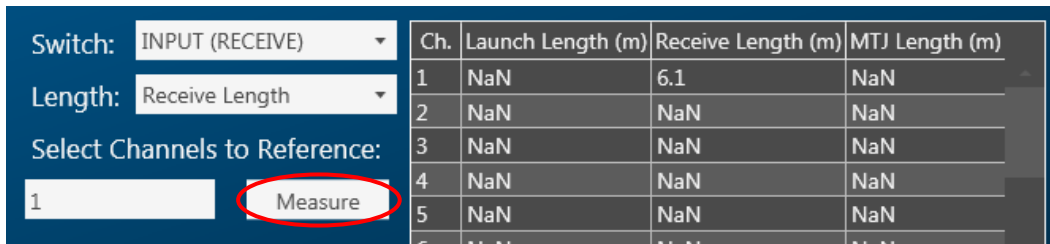

Figure 23: Measure receive length of the input switch
- Measure the receive length of the input switch on channel 1 (Figure 23).